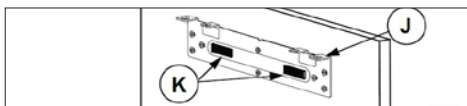

Fig. 13
21. You can compensate any inequalities with plastic spacers (K) attached on the holder (J). Remove these spacers completely if necessary (Fig. 13).